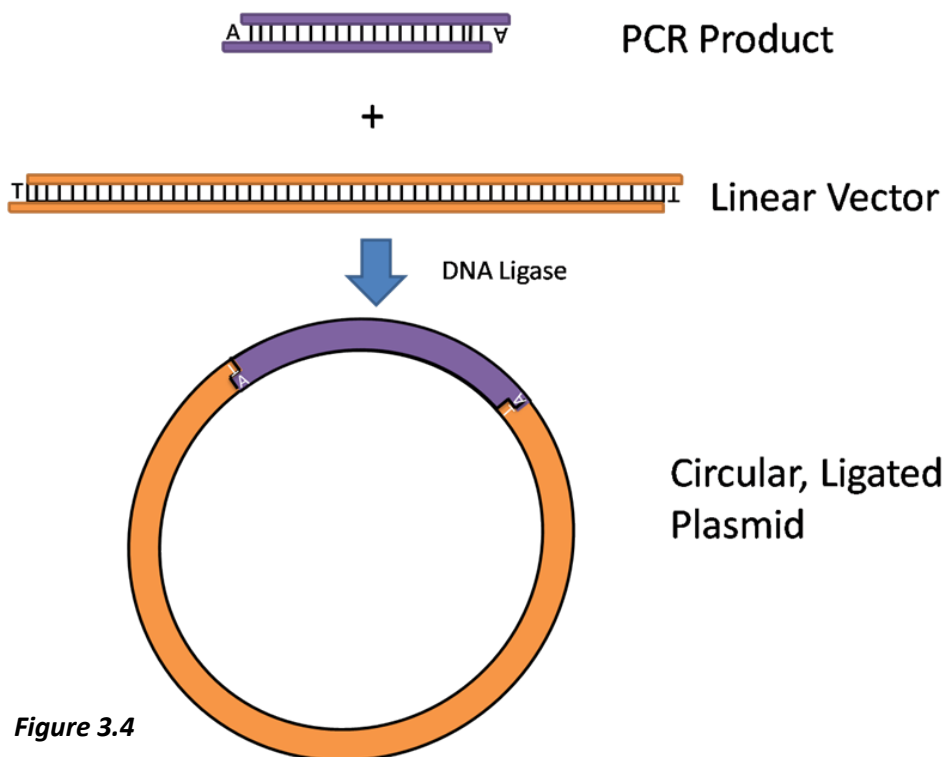

Figure 3.4
order to get the PCR products to attach to another piece of DNA, that DNA must have a 3' overhanging thymine (T). The opened vector that you will be using has exactly this, a 3' overhanging T on each end, which will easily attach to the 3' overhanging A's of the PCR product. Utilizing this property of Taq Polymerase for ligation is a type of sticky ends cloning (Figure 3.4) because it connects overhanging thymine and adenosine bases to increase the specificity of the ligation reaction.
DNA differently. Would it be helpful edit figure 3.4 so that it shows the PCR product + a circular vector, then circular vector + restriction enzyme = linear vector, then PCR product + linear vector + ligase = plasmid? I think it would show the more complete process that you talk about in the page.
2. Now that you know about DNA directionality and sticky ends cloning, you can begin to understand DNA *orientation*. Draw two simple diagrams of the plasmid labeling the 5' and 3' strands of DNA using Figure 3.4 as a model: in each diagram show how the PCR product can be inserted in a different orientation.